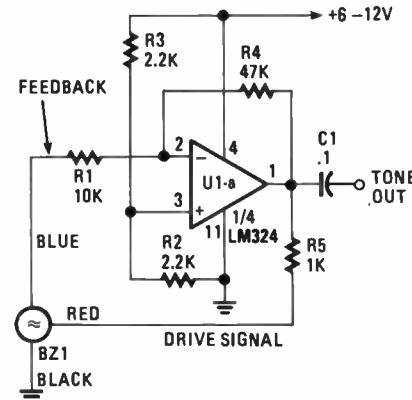

Fig. 1. This self-oscillating circuit uses a three-terminal piezo transducer as the frequency-determining component.
**Fixed-Frequency Generator.** The circuit shown in Fig. 1 is self-oscillating; in it, a piezo element is used as the frequency-determining component. The circuit produces a tone output that can be used as an encoding signal for remote control or any other application where a fixed-frequency tone signal is required.
There are a number of "orphan" piezo transducers available on the surplus market. Several three-terminal piezo transducer elements were tried in the circuit and all performed well. The transducer specified in the Parts List comes with three short colored-coded (red, blue, and black) lead wires as indicated in Fig. 1. With the aid of the piezo-transducer pinout shown in Fig. 2, you should have little trouble in connecting any transducer to the circuit.